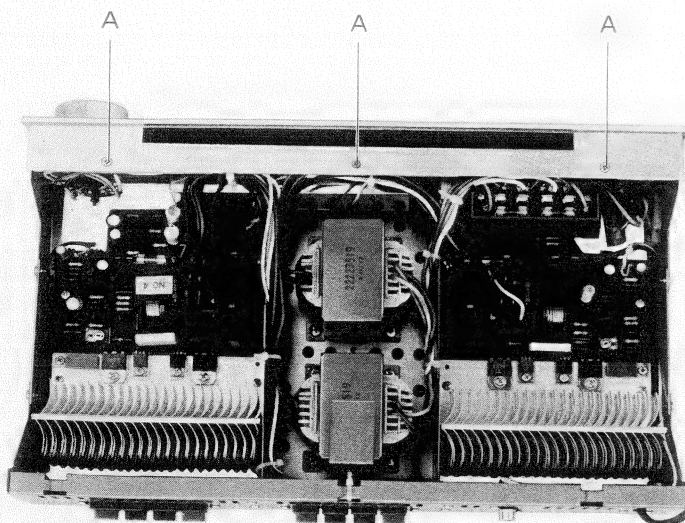

Figure 12
Remove six screws (A) from top and bottom as shown in Figure 12 and 13, and the front panel with push buttons can be removed.